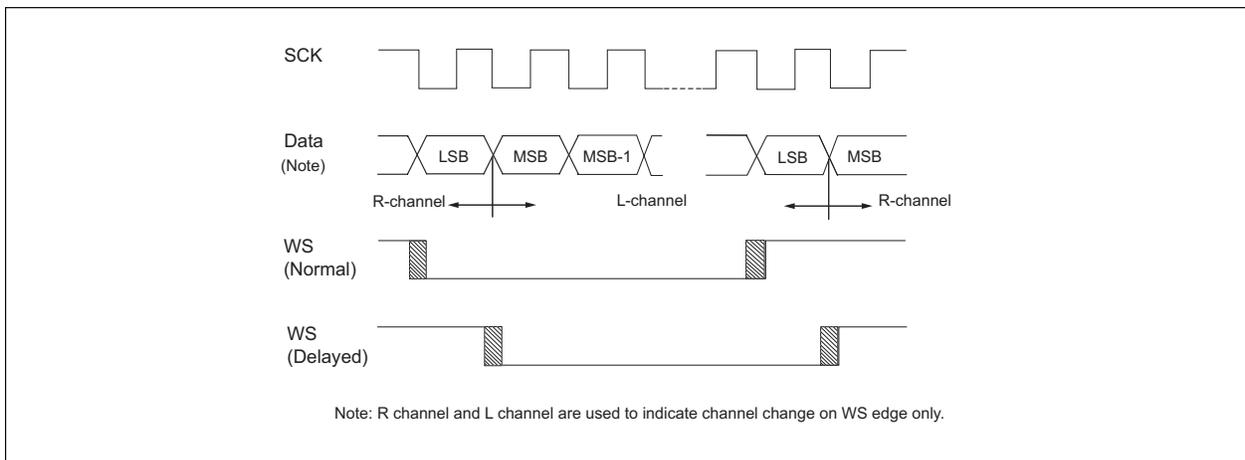

Figure 1.119. WS normal or delayed transitions
- Normal or delayed WS: WS transitions one SCK period before a channel change (normal mode) or concurrently with a channel change (delayed mode) as shown in Figure 1.119.